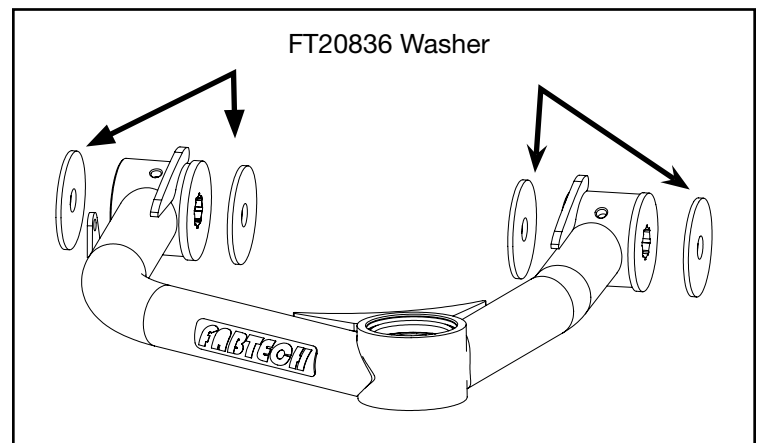

FIGURE 14 - STEP 12
12. Install the FT20868 (Driver) & FT20869 (Pass) upper control arms using the supplied M14 hardware. Install the bolts with the bolt head inside the tower and the threaded end outside. **NOTE: When installing the arms, install a FT20836 (washer) on both sides of the bushings. SEE FIGURE 14**